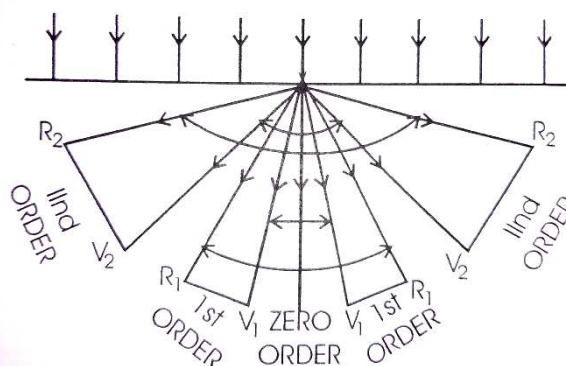

Fig.3 Spectrum obtained in a grating
- viii.** Angle of diffraction can be obtained as follows (See Fig. 3):